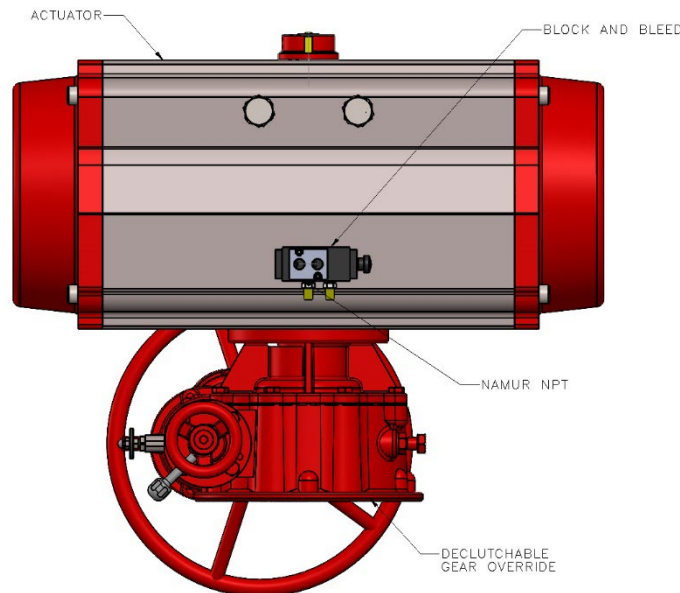

Figure 2
4. Drawing P1984 (shown on the last page of this document) shows the mounting orientation for the standard solenoids furnished by A-T Controls. Figure 2 shows the actuator with the NPT plate installed with the Block & Bleed Valve.
10. Push the knob in on the block and bleed valve shown above in Figure 2. This is the remote (disengaged) position for the block and bleed valve.
11. Place the DGO in the remote (disengaged) operating position. This is with the lever down shown in Figure 2.
6. Push the knob in on the block and bleed valve to return to the remote operation (See Figure 2 and 3).